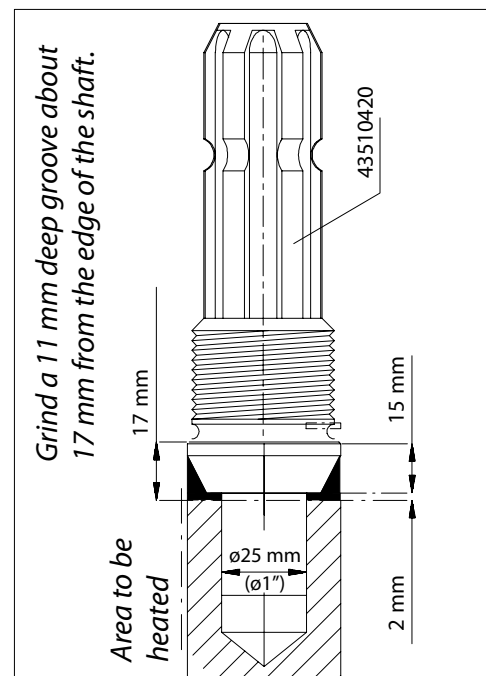

Fig. 28. Replacing the splined shaft
4. Grind an 11-mm-deep groove about 17 mm from the edge of the shaft. See Fig. 28.
7. Clean the shaft hole and install the new shaft as shown in Fig. 28.